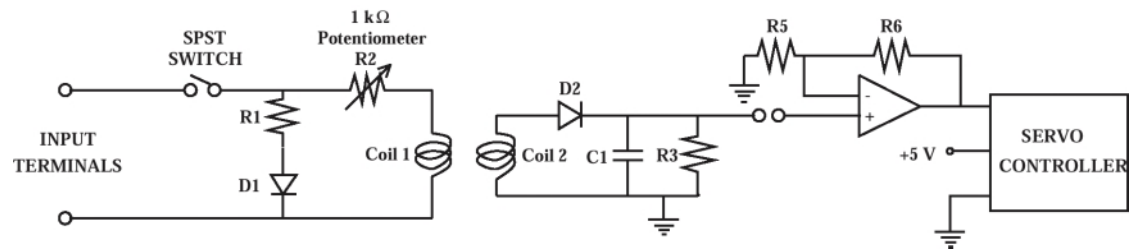

Figure 1: Transmitter and Receiver Circuit
Observe the schematic of the transmitter and receiver circuits shown in Figure 1. In this section, you will build the transmitter and receiver circuitry.
A rectifier is a circuit that performs AC to DC conversion. AC, an acronym for Alternating Current, means sinusoidal variation with time. DC, an acronym for Direct Current, means constant. Hence, a rectifier converts a sinusoidal voltage to a constant voltage. Most rectifiers utilize one or more semiconductor **diodes**. The theory behind diode operation will be investigated in the next lab exercise. For now, think of a diode as a one-way valve. While re-examining Figure 1, consider what happens in the receiver circuitry. The two coils are linked via mutual inductance. Since the transmitter input will be connected to the function generator and driven with an AC (sinusoidal) voltage, the current through the transmitting coil will be sinusoidal. Therefore, the induced voltage across the receiving coil will be sinusoidal as well. In order to drive the servo controller, we need a DC voltage. Hence, we will use a rectifier circuit to perform this conversion. The rectifier (and smoothing circuit) is composed of D_2 , C_1 , and R_3 in Figure 1. The induced sinusoidal voltage across the receiving coil will cause a current to flow to the right through Diode 2, but only during the positive half-cycle of the induced voltage. During the negative half-cycle, the induced voltage across the receiving coil attempts to force current to the left through Diode 2. However, due to the **unidirectional** one-way valve nature of the diode, no current flows through it. The capacitor C_1 charges during the positive half-cycle and discharges through resistor R_3 during the negative half-cycle. However, since the **time constant** τ is $R_3C_1 = 0.047s$ (see item 1 below) which is large compared to the period of the sinusoidally induced voltage, the next positive half-cycle occurs before the capacitor discharges at all. The result is a nearly constant (DC) voltage across C_1 and R_3 . As